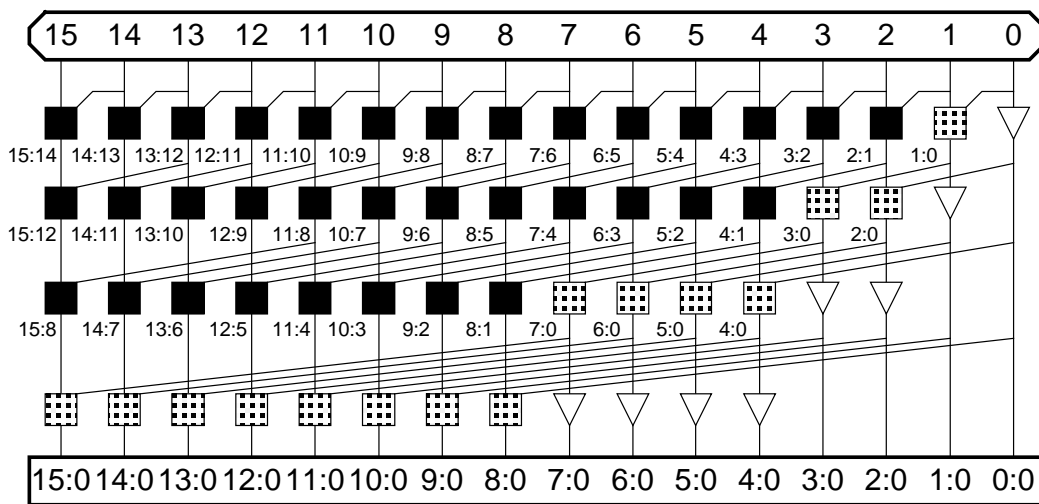

Fig 3
Q3. For radix 2 KOGG STONE (KS) PG diagram shown in Fig. 3-